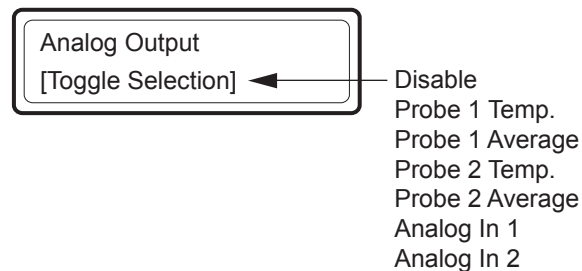

Figure 4.10—Configuration menu for analog output
2. Press INCREMENT and ENTER buttons to enter the configuration menu (Figure 4.10).